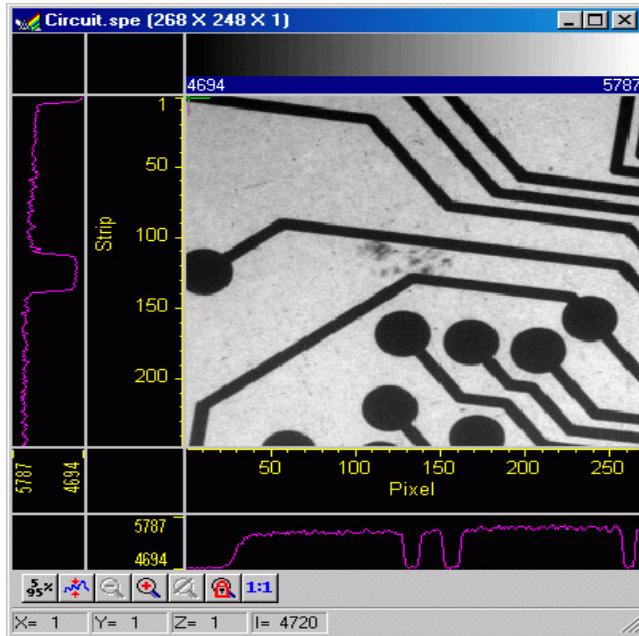

Figure 103. Circuit.spe with Axes and Cross-sections
5. The display should now appear as shown in Figure 103. The axes will be labeled in image pixels and strips with respect to the CCD chip used to acquire the image. The vertical image intensity profile at the cursor position will be displayed to the left and the horizontal image intensity profile at the bottom. The minimum and maximum values for each profile are indicated. Note that you can use the mouse and drag the axes and profile boundaries to change the size of the profile display regions. To change the cursor location, simply click the mouse at the new spot. The cross-sectional graphs will change to reflect the profiles at the new location.